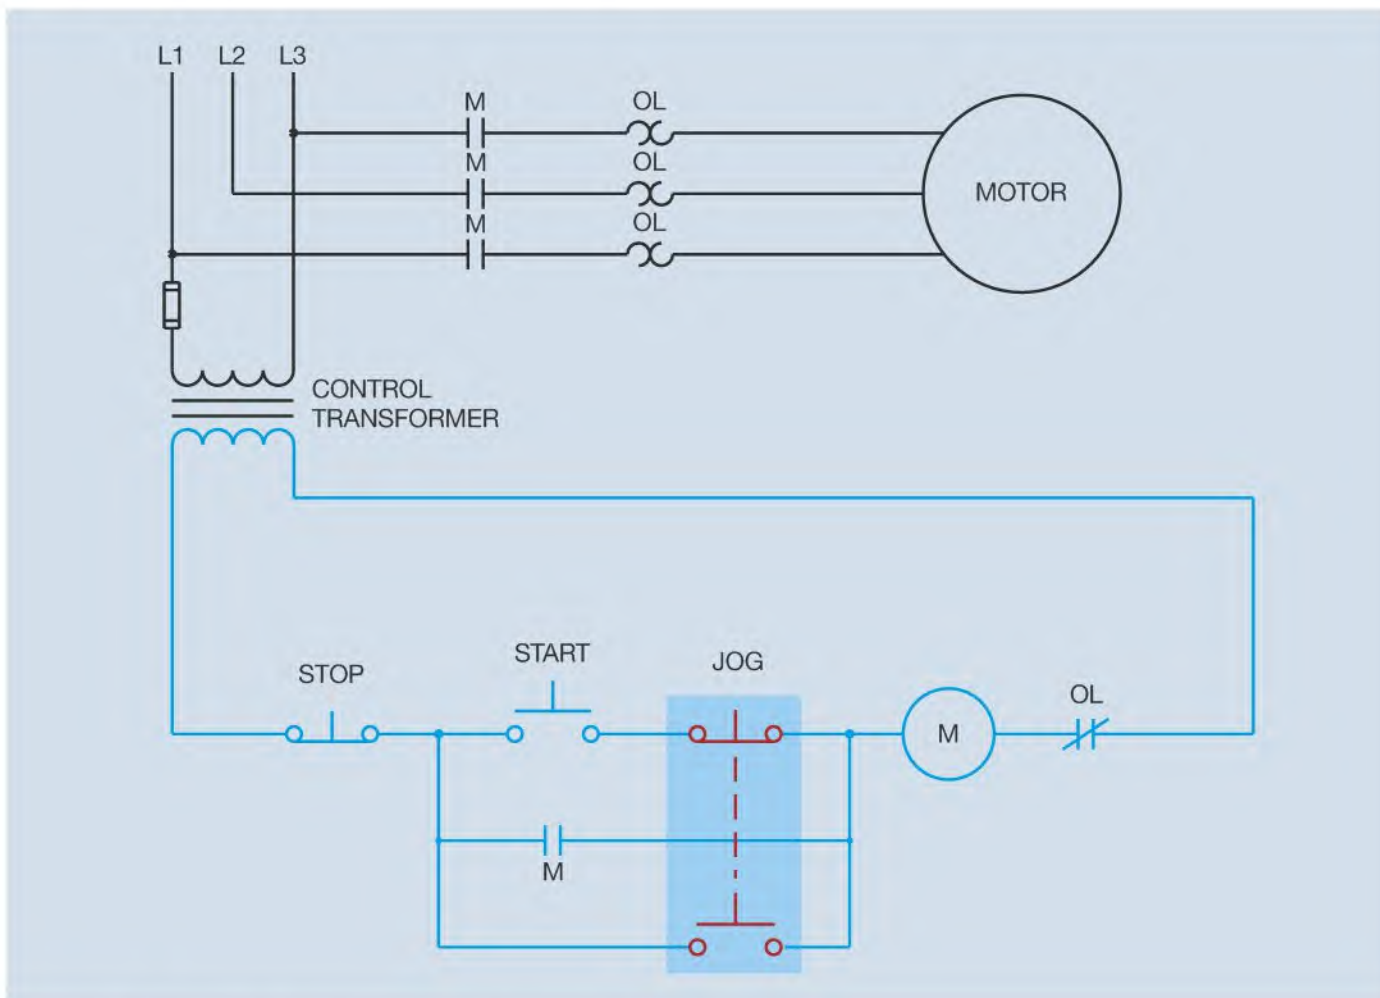

Figure 10-9 Another incorrect connection for the jog button.
4. Refer to the circuit shown in Figure 10-9. In this circuit the jog push button has again been connected incorrectly. The normally closed section of the button has been connected in series with the normally open run push button and the normally open section of the jog button is connecting in parallel with the holding contacts. Explain how this circuit operates.